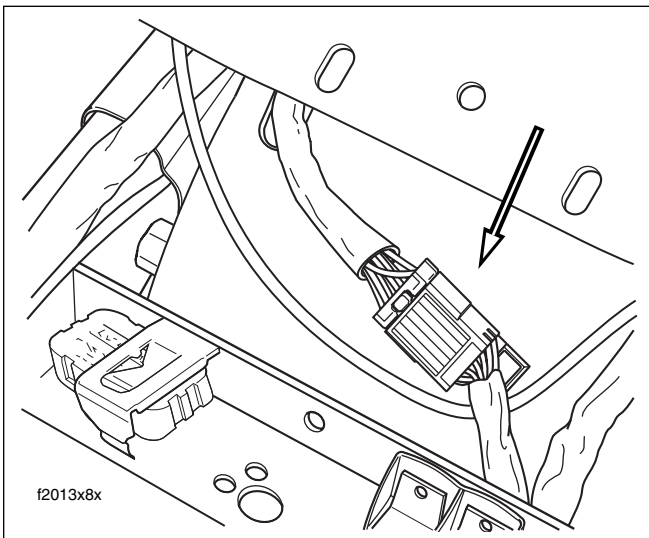

Figure 2-190. Rear Fender Lights Connector [7]
5. Disconnect rear fender lights connector [7] anchored at front of rear fender. Release anchor from fender hole. See Figure 2-190.
- 10. Connect rear fender lights connector [7] and snap anchor in rear fender hole. See Figure 2-190.